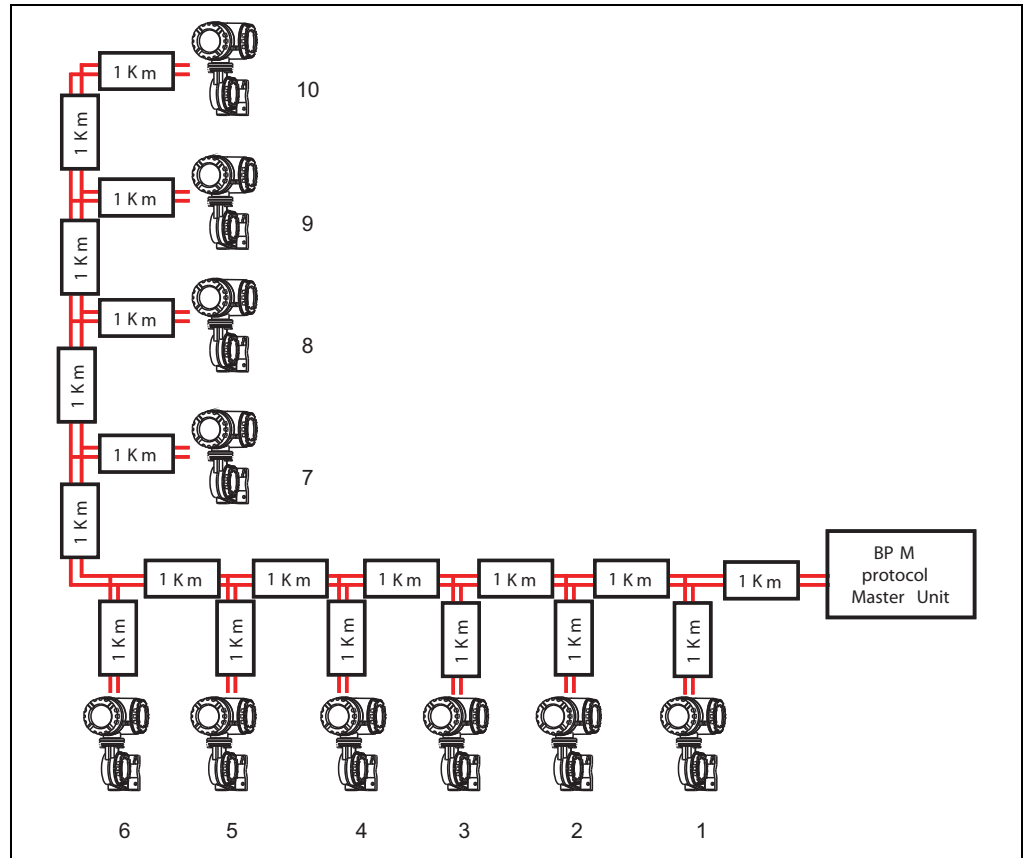

Figure 3-2: Example of a Staggered Network with the Maximum Cable Length
- The maximum cable length is 10 km (tested topology: staggered network: 10 field devices, and one master unit 1 km spurs) as shown in Figure 3-2.